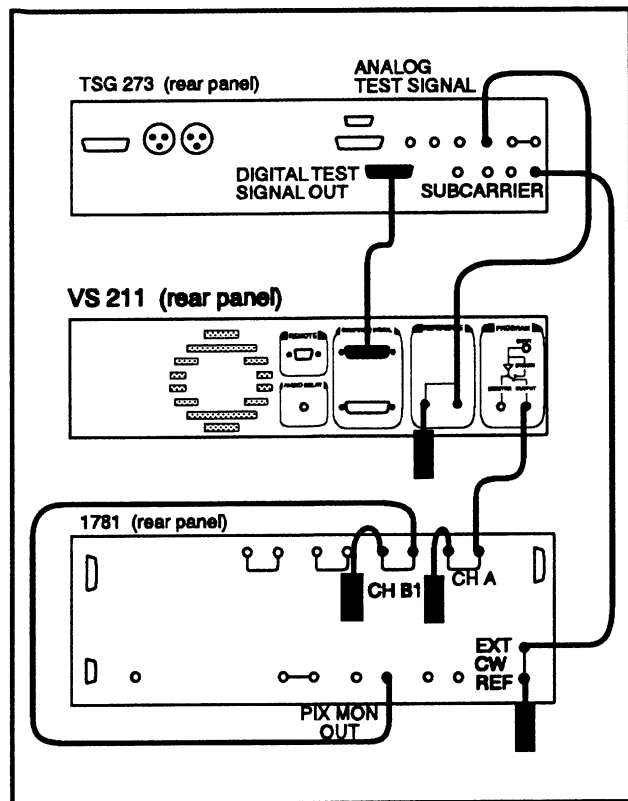

Fig. 4-6.
- a. Connect the test equipment as shown in Fig. 4-6.